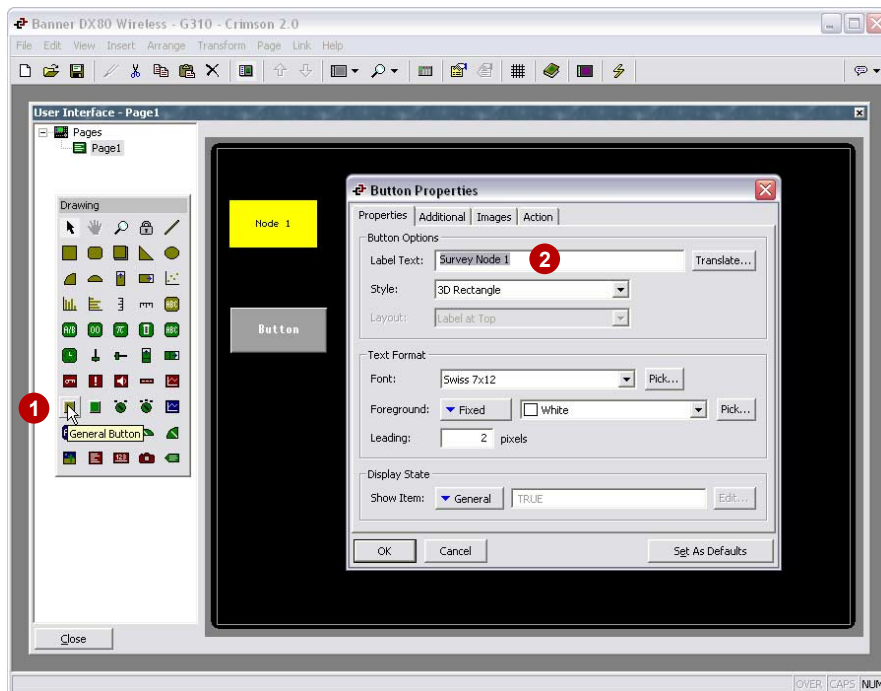

Figure 26
1. Create a General Button (Figure 26)